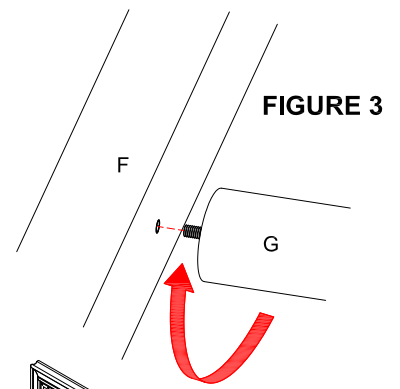

FIGURE 3
- Attach the support leg (G) to the slat support (F) by turning it manually. See FIGURE 3.